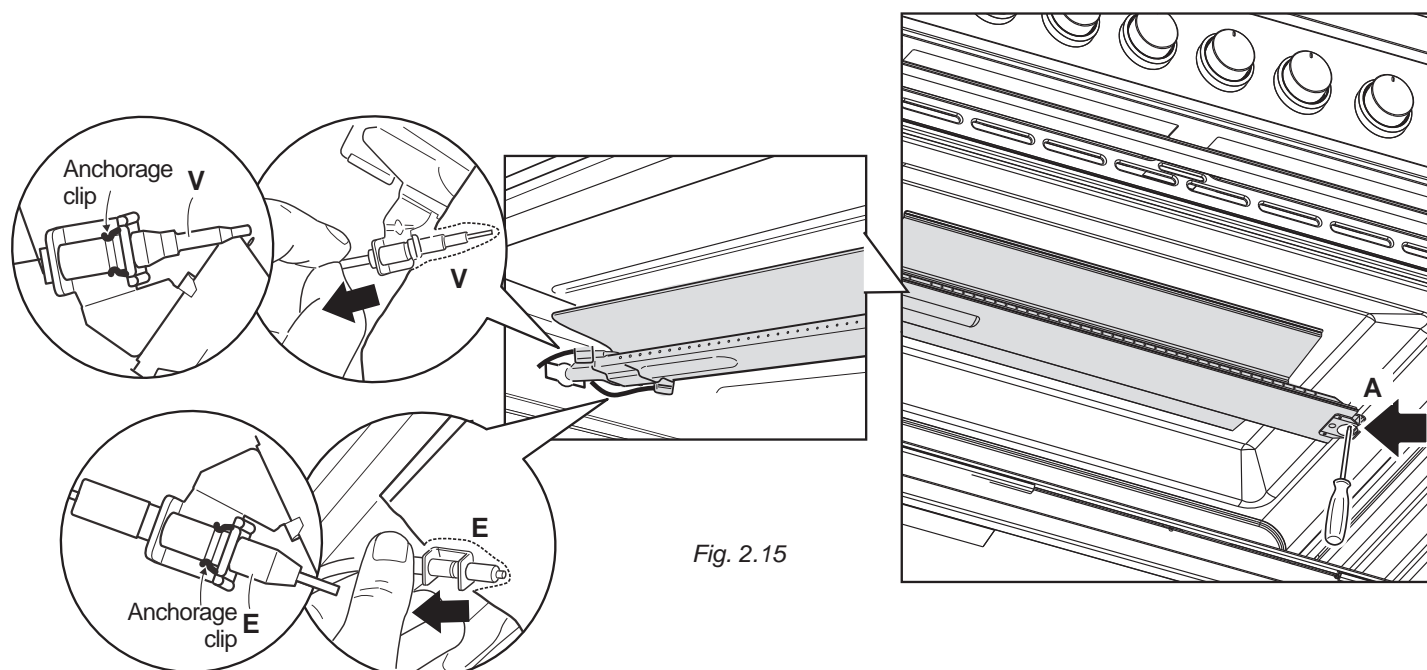

Fig. 2.15
- Unscrew and remove the burner securing screw "A" (fig. 2.15).
IMPORTANT: Pay special attention to replace correctly the safety valve probe "V" and the ignition electrode "E" as per figure 2.15. Check the correct operation of the safety valve and the ignition electrode.